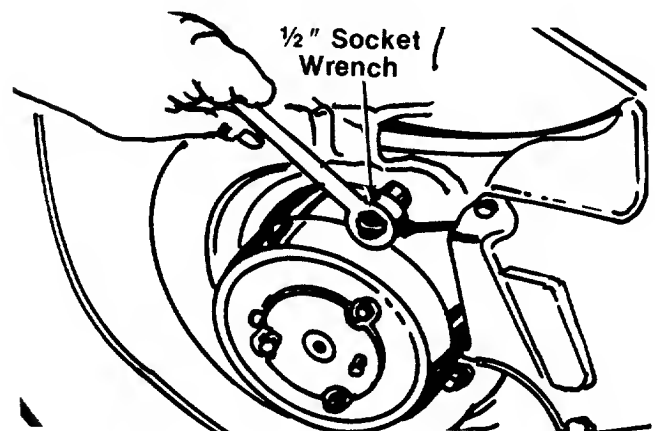

FIGURE 21.
11. Support the engine with one hand. Remove the three self-tapping screws which secure the deck and blade brake/clutch to the engine. A 1/2" socket wrench is required. See figure 21.